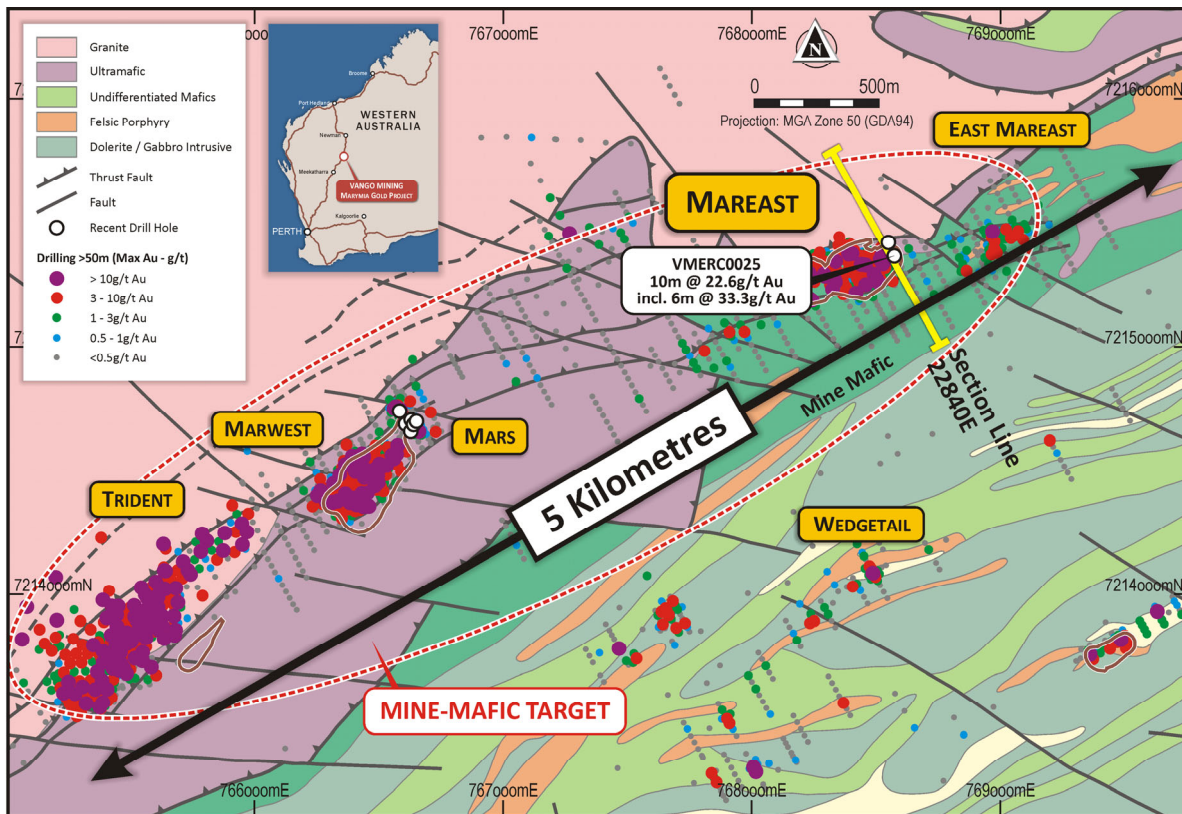

Figure 2: Trident-Marwest-Mareast Corridor, Mareast Prospect with Drillhole Location and Result
Mareast is located at the eastern end of a significant 5km structural/mineralisation corridor that continues from the very high-grade Trident resource through Marwest/Mars prospects to the Mareast prospect (see plan of Trident-Marwest-Mareast corridor and drill hole locations, Figure 2).
Targeting of deeper extensions of this very high-grade Mine-Mafic hosted mineralisation has highlighted the area between Marwest and Mareast where a thick sequence of mafic rocks (highlighted by gravity inversions) is interpreted to lie below the shallow dipping ultramafic sequence. Deeper RC and possibly diamond drilling is being planned to test this key, larger scale, target area (see Figure 2).
The current, on-going, drilling programme has included two reverse circulation (RC) holes at Mareast and six holes at the very high-grade **Mars** zone, the near surface projection of the 2km strike length of the Trident to Marwest high-grade gold corridor (see plan view Figure 2, and Table 2 for hole locations). Further, material, results will be reported when available.